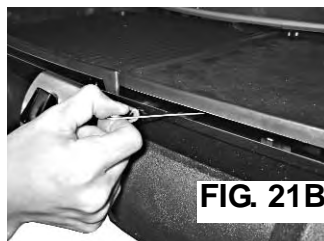

FIG. 21B
- 4) Match light the burner with the supplied match holder and a match near the burner. **(FIG. 21B & Fig. 21C)**